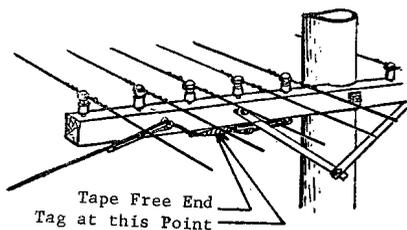

Figure 3. Drop Wire Disconnected at Open Wire Location
- b. Twist the free end of the wire back on itself beyond the first ring or point of attachment, and tape as shown in Figure 3.
- (1) The drop wire shall be removed.
- (2) Where protectors are mounted inside buildings, plug the drop wire entrance hole. Where the protector is mounted outside the building, tape the inside wire and bend the ends back into the entrance hole and plug the hole.